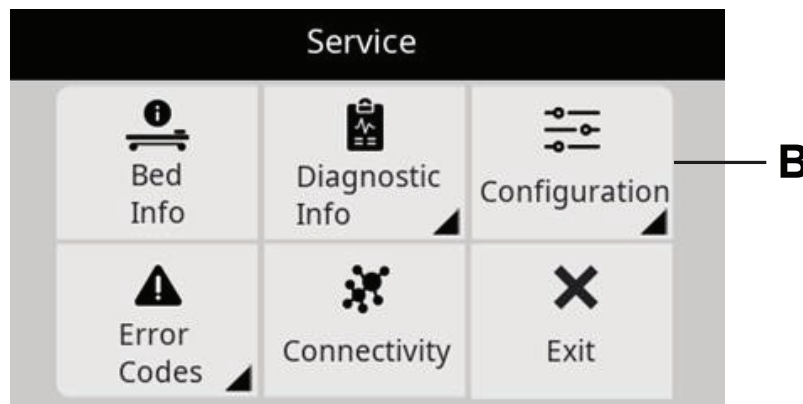

Figure 5 – ProCuity service menu
3. Enter the service menu and select **Configuration** (B) (Figure 5).